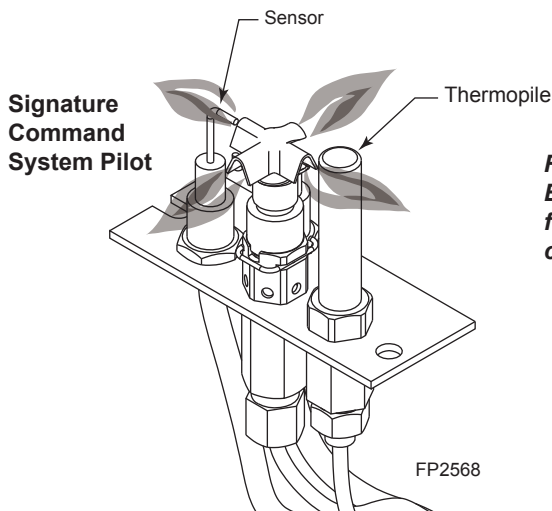

Figure 58 -
1. Check pilot flame. Flame should touch approximately 3/8" of the top of thermopile and touch top of thermocouple. *Figure 58* If not, contact dealer for service.